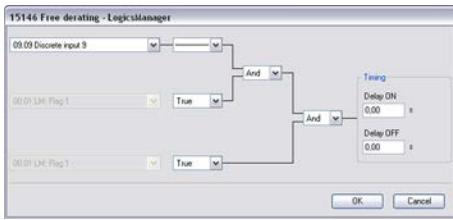

Fig. 229: LogicsManager function "Free derating"
- Configure the LogicsManager function "Free derating" as shown in ( Fig. 229) to enable derating of power if discrete input [DI 09] is energized.